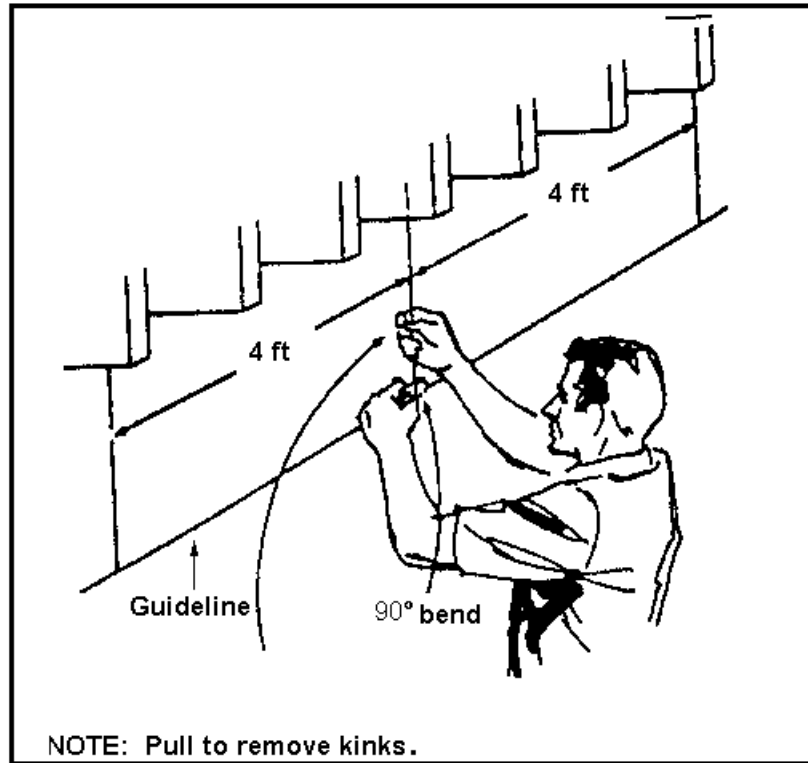

Figure 051-236-1189-4
- (1) Ensure that suspension wires are installed every 4 feet along the main tees and on each side of all the splices.
- (2) Start with the joists at either end of the ceiling and put a screw eye into every fourth joist at each chalk mark.
- (3) Twist a piece of suspension wire through each screw eye so that the wire hangs down about six inches below the ceiling line (this wire will be twisted onto the runners) (Figure 051-236-1189-4).